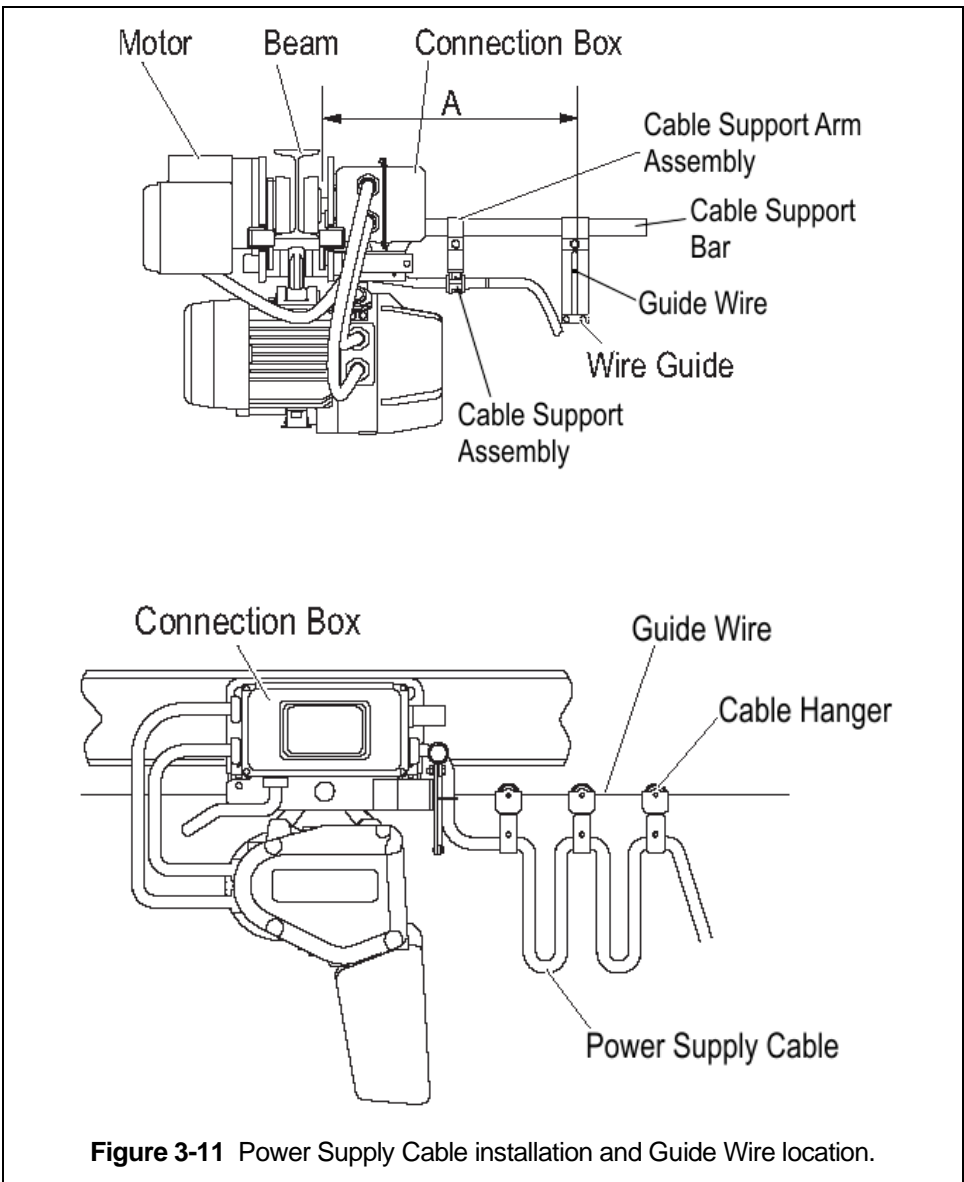

Figure 3-11 Power Supply Cable installation and Guide Wire location.
- 4) Install the Cable Support Assembly (pre-installed on the Power Supply Cable) onto the Cable Support Arm Assembly as shown in **Figure 3-11**.
- 1) Refer to **Figure 3-11**.